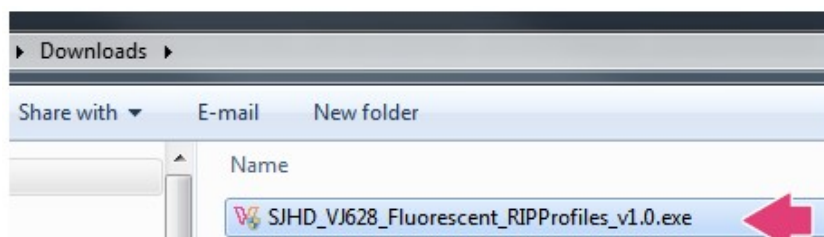

Figure 1
1. Select the **SJHD_VJ628_Fluorescent_RIPProfiles** application file in your computer's downloads folder. See Figure 1.